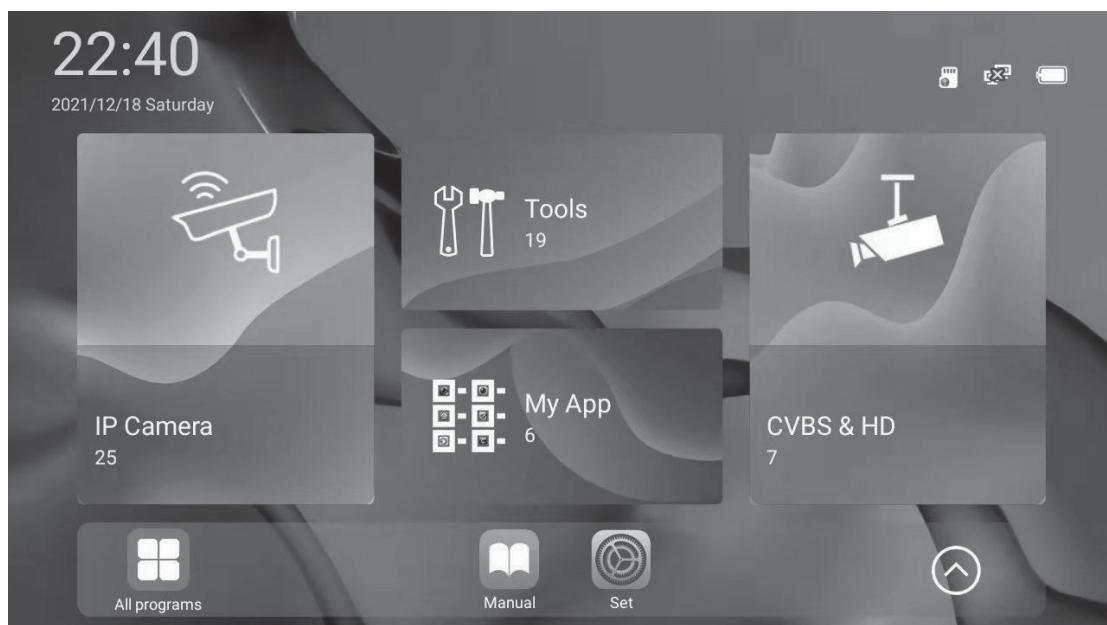
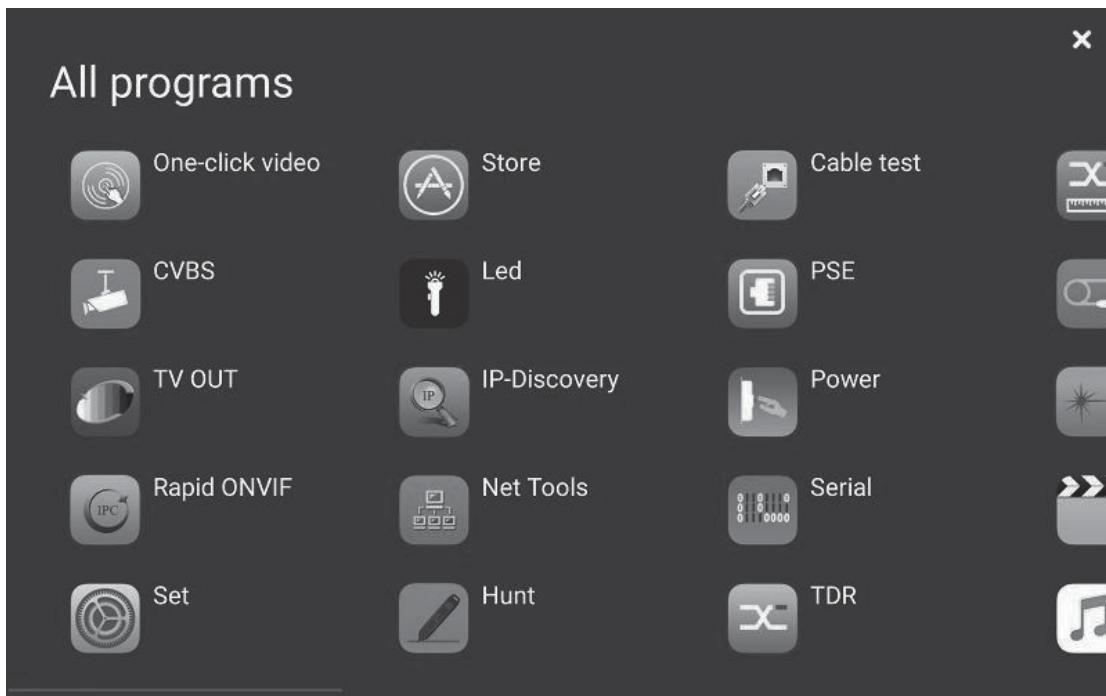

Figure 1 System Desktop
Figure 2
This instrument uses smart operation system, ensure that the lithium battery is installed correctly and has enough power, press the power button for 2 seconds to boot, waiting for system boot completion, then you enter the system desktop main menu, as shown in Figure 1
1) The upper right status bar icons represent the SD card status, network connection status, battery level, the upper left icons represent the current time and date, as shown in Figure 1
2) Directly touch the icon  in the lower left corner of Figure 1 to list all software in the system, slide left or right to view more applications, as shown in Figure 2